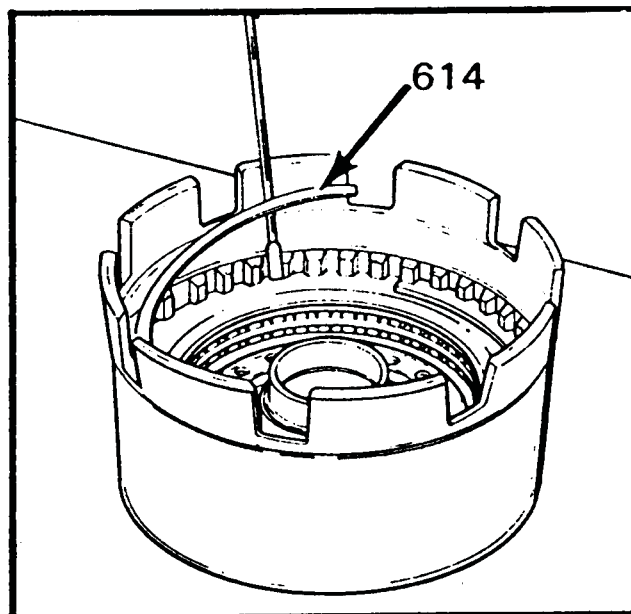

Figure 129
18. Install the reverse backing plate snap ring, as shown in Figure 129.